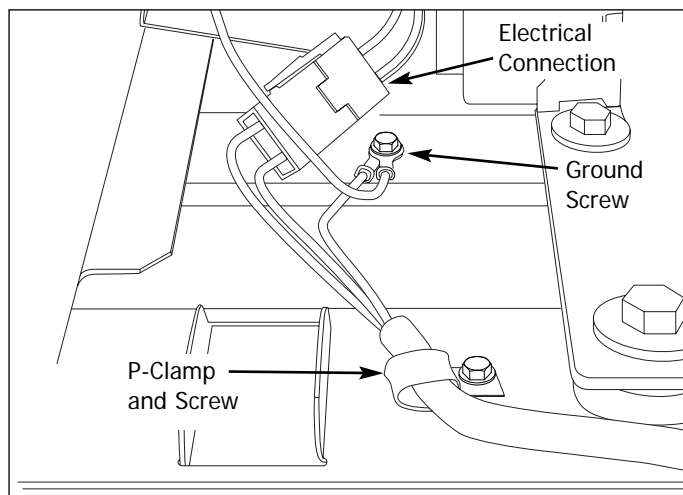

Figure 5-21. Power Cord Removal
3. Using a 1/4" socket or wrench, extract the screw securing the P-clamp to the compressor mounting plate. (See Figure 5-21)